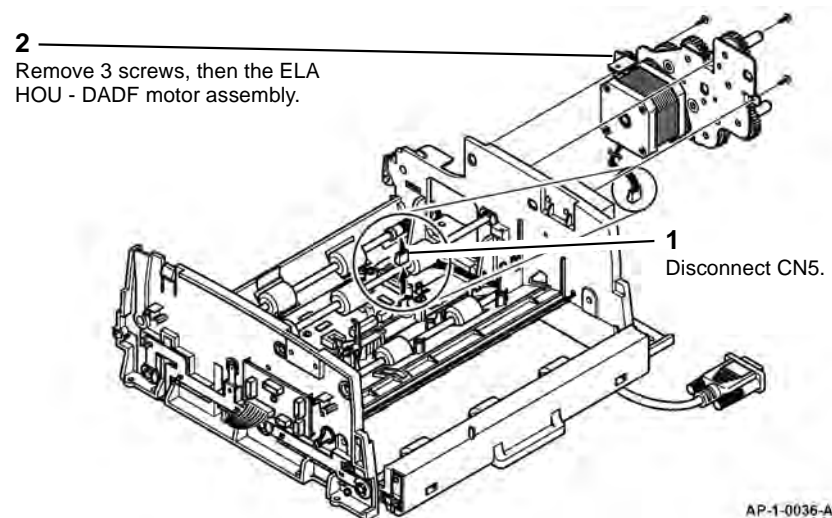

Figure 18 ELA HOU - DADF motor assembly removal
19. Remove the ELA HOU - DADF motor assembly, Figure 18.